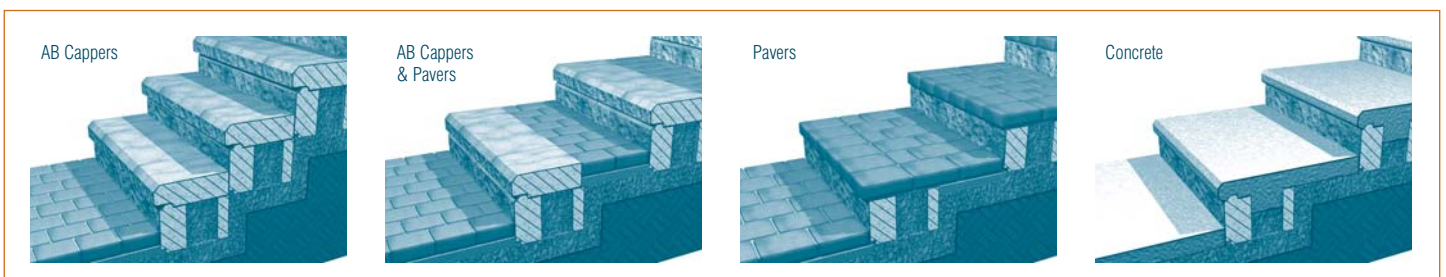

Figure 23: Step Tread Options
- Before excavation can begin, the rise and run of the step treads must be determined and code requirements must be met. With that information, the entire base trench can then be excavated. Some examples of different step tread options are illustrated below (figure 23).